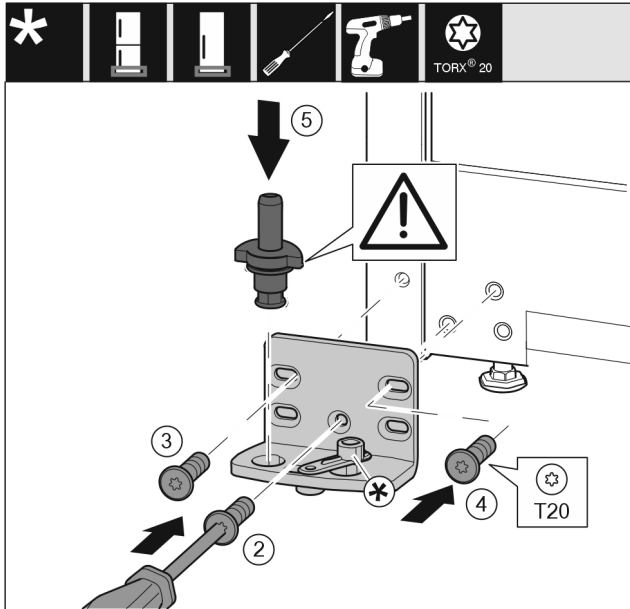

Fig. 22 \*
- ▶ Place the swap bearing block on the other side and use a screwdriver to screw it on. Start with the screw Fig. 22 (2) at the bottom in the middle.\*
- ▶ Tighten screw Fig. 22 (3) and screw Fig. 22 (4)\*
- ▶ Insert the bearing bolt Fig. 22 (5) completely. Ensure that the latching cam is pointing towards the rear.\*
- ▶ Place the swap bearing block on the other side and use a screwdriver to screw it on. Start with the screw (2) at the bottom in the middle.\*
- ▶ Tighten screw (3) and screw (4)\*
- ▶ Insert the bearing bolt (5) completely. Ensure that the latching cam is pointing towards the rear.\*